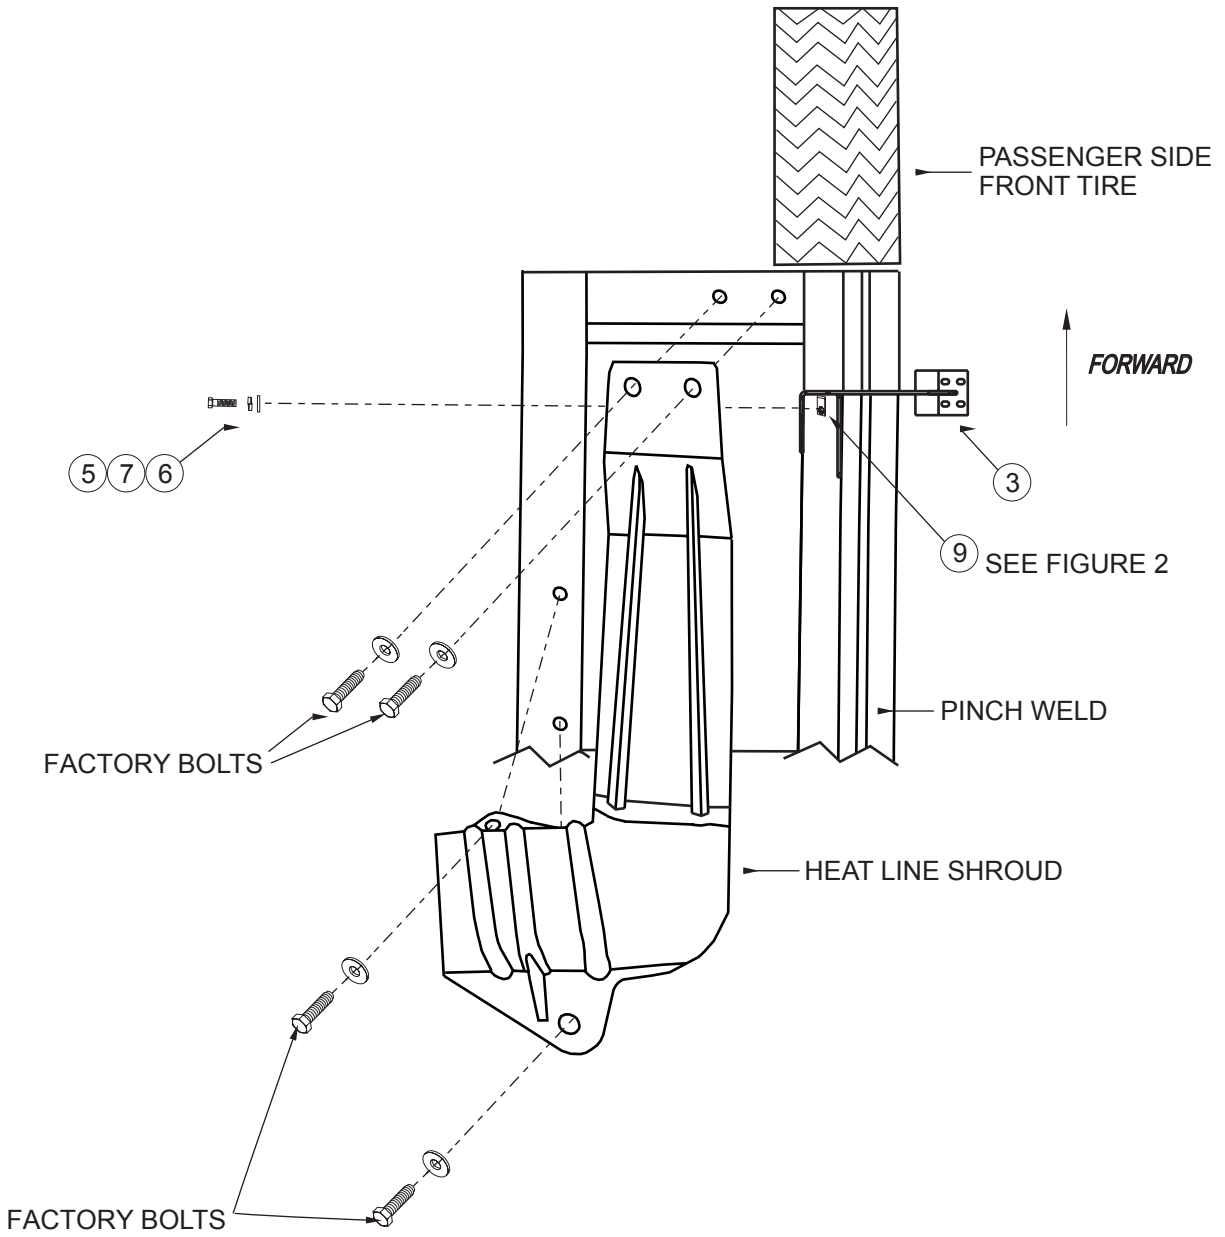

FIGURE 5
- STEP 4. Attach driver side brackets to underside of rocker panel as shown. Hand tighten. **SEE FIGURES 1 AND 2. For Jeep Commanders only:** To attach the passenger side front bracket, remove the four bolts that secure the rear air and heat line shroud. Remove the shroud to gain access to top mounting location on the bracket. After bracket is installed and fasteners are tightened, reattach shroud with the four existing bolts previously removed. **SEE FIGURE 5.**